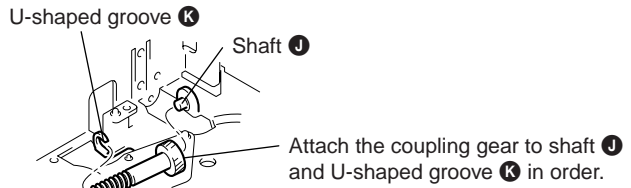

Fig. 9
⑤ Attach the coupling gear. After attaching, apply grease while rotating the coupling gear by 120° each time. (Fig. 9, 10)